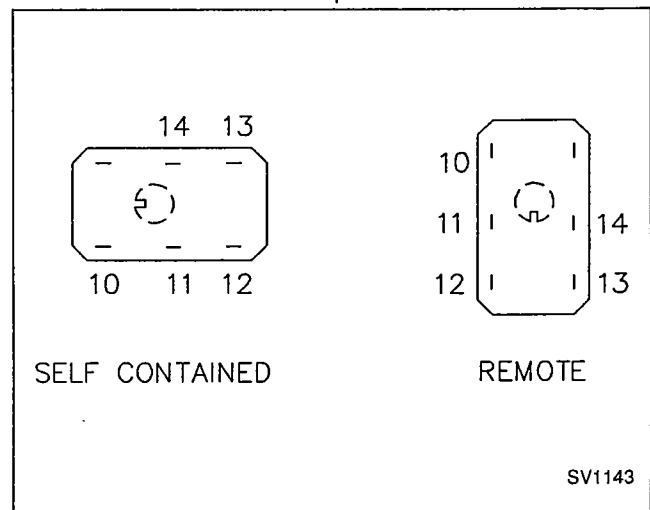

FIGURE 41. ICE/OFF/WATER PUMP SWITCH CHECK
1. Inspect switch for correct wiring (Figure 41).